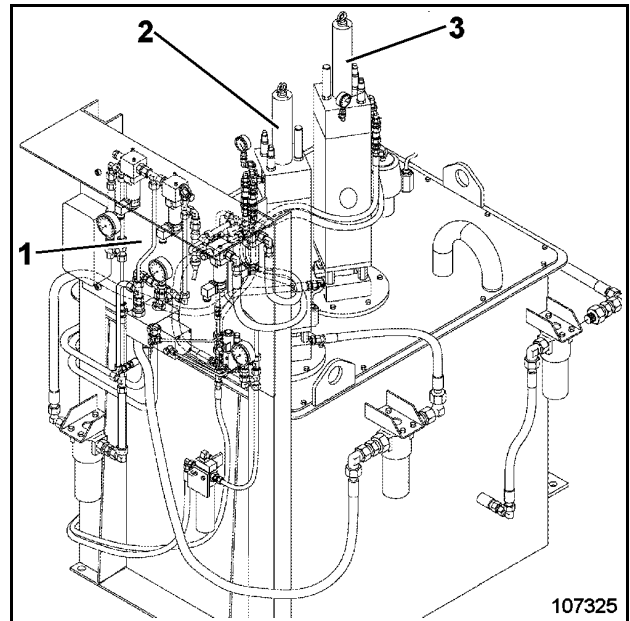

Fig. 3-148:
The grease is pumped by hydraulically driven pumps (2 and 3, Fig. 3-148:) via greasing lines from the grease container to the main distributors on the superstructure and on the undercarriage. Pump (2) supports greasing points on superstructure and working equipment, pump (3) supports the undercarriage (optional).